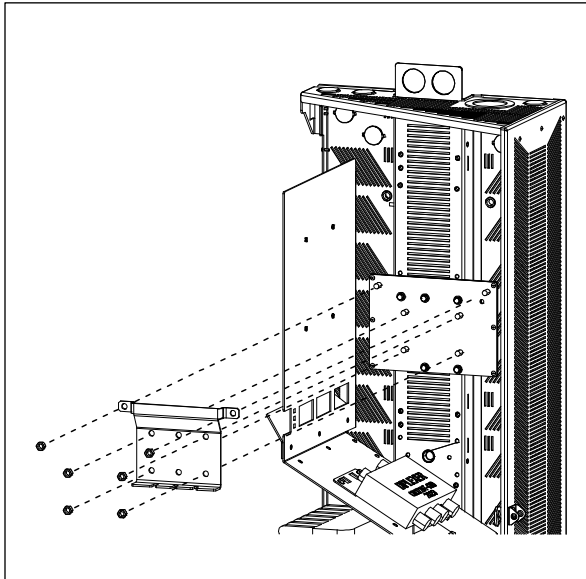

Figure 21 Hanging Bracket Mounting Plate
5. Attach the mounting plate to the studs on the back plate using five 1/4-20 Keps nuts (Figure 21).